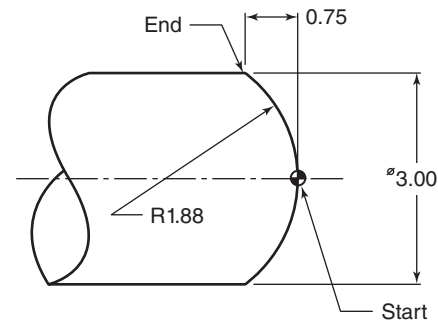

Figure 22-15 Problem 3—Write the radius method command.
3. See Fig. 22-15. Write an *IJK* arc command for this turning job using absolute value coordinates. Then write the radius arc command.